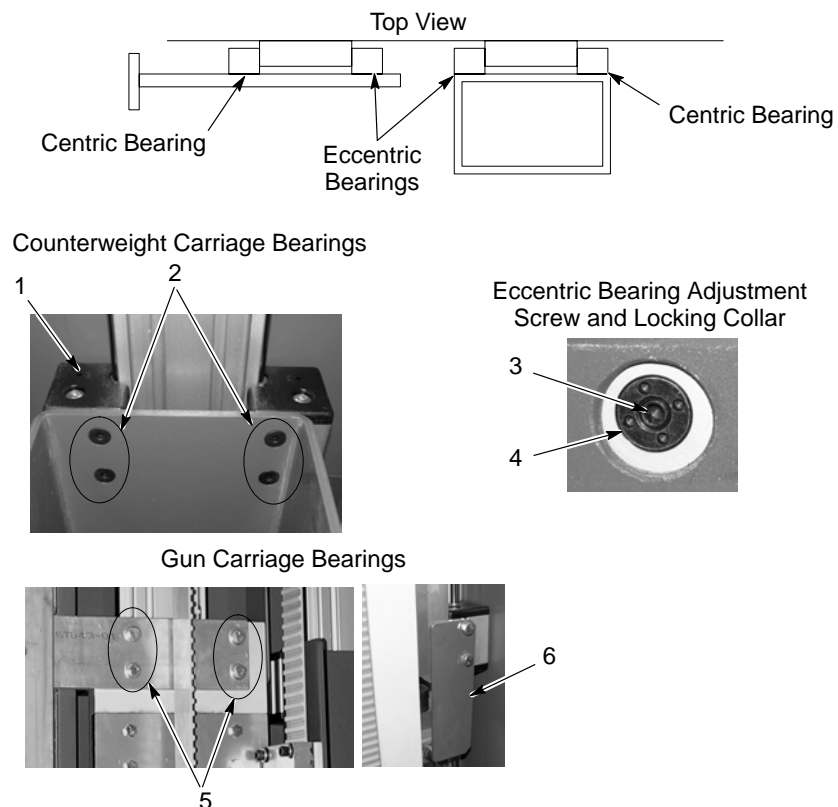

Figure 15 Rail Bearing Replacement
4. See Figure 15. Manually move the carriage until the bearing adjustment screw (3) and locking collar (4) is accessible through the hole.